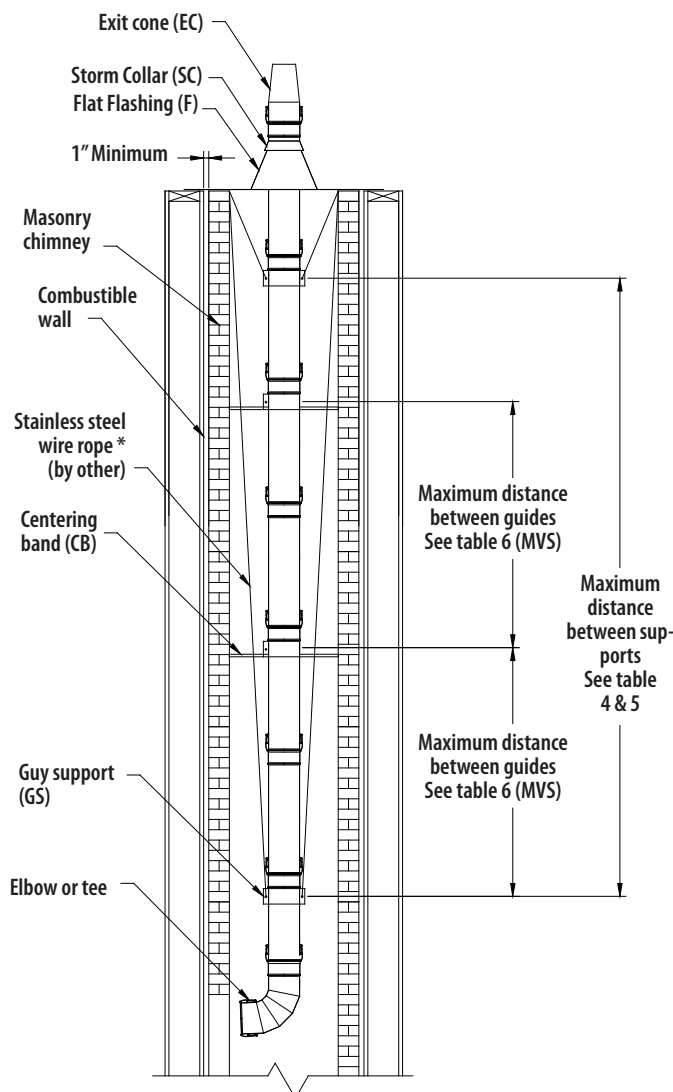

Figure 12 - Installing DuraSeal as a liner
- 2- Make sure the DuraSeal Flex is supported at the bottom of the chimney. Refer to **Figure 12** for guiding and support installation in the masonry chimney.